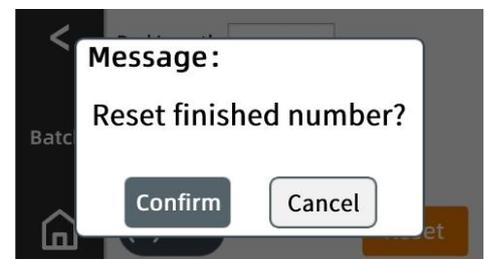

Figure 3a
7) When there is no alarm reminder on the interface and the machine is suspended, Click  or not to decide whether you need to clear the recorded data (Figure 3a). If you choose confirm, it will start counting from 1 when restarting.